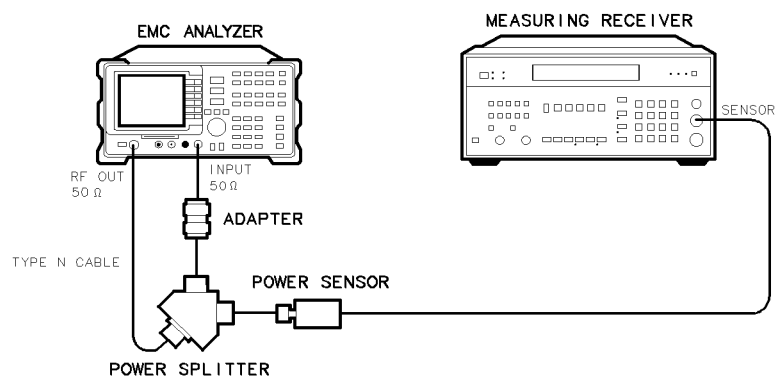

Figure 2-75.
1. Connect the equipment as shown in Figure 2-75. Do not connect the power sensor to the power splitter at this time.
4. Zero and calibrate the power-sensor/measuring-receiver in log mode (power levels read out in dBm). Refer to the measuring receiver operation manual. Enter the power sensor 300 MHz Cal Factor into the measuring receiver. Connect the power sensor to the power splitter. See Figure 2-75.